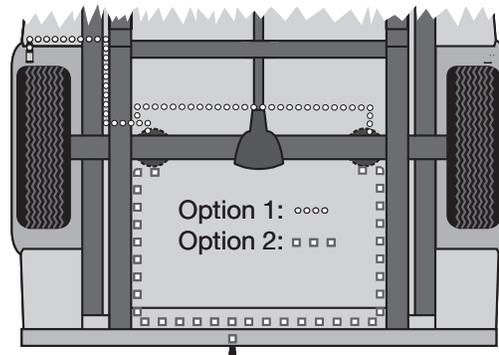

fig. 12
7. Select a location for the inflation valve in the gas cap well, the trunk, rear bumper, fender flange or license plate, ensuring that the valve will be protected and accessible with an air hose (Fig. 12).